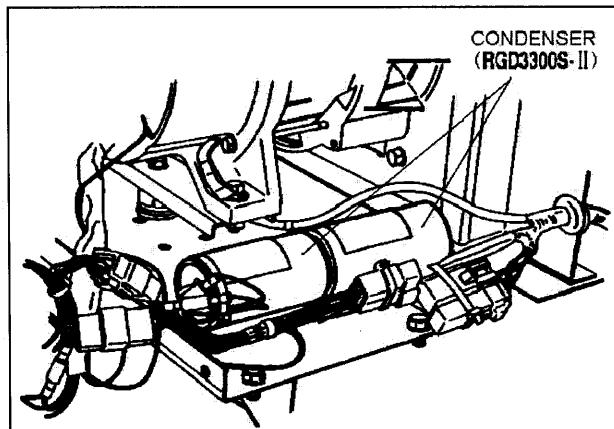

Fig. 6-7
- If an instrument (QC-meter or C-meter) for measuring capacity of condenser is available, check the capacity of condenser. (See Fig. 6-7.)